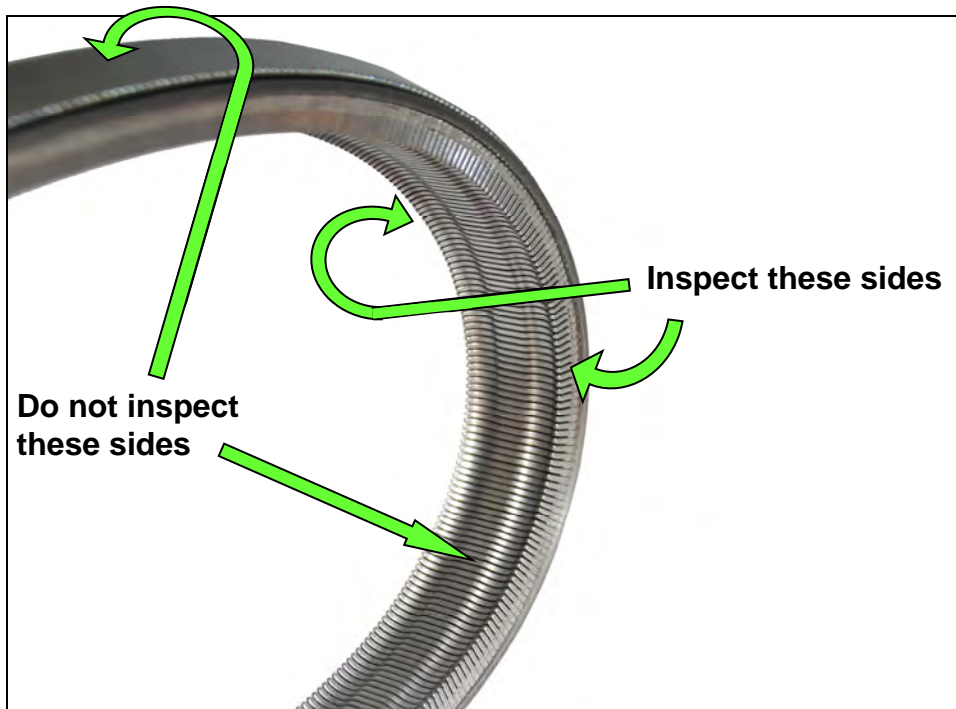

Figure 11
4. Using borescope J-51951 with mirror attachment, inspect the entirety of the two sides of the belt that come in contact with the pulleys (see page 10, Figure 11). Reference the pictures on pages 10 through 14 for comparison.